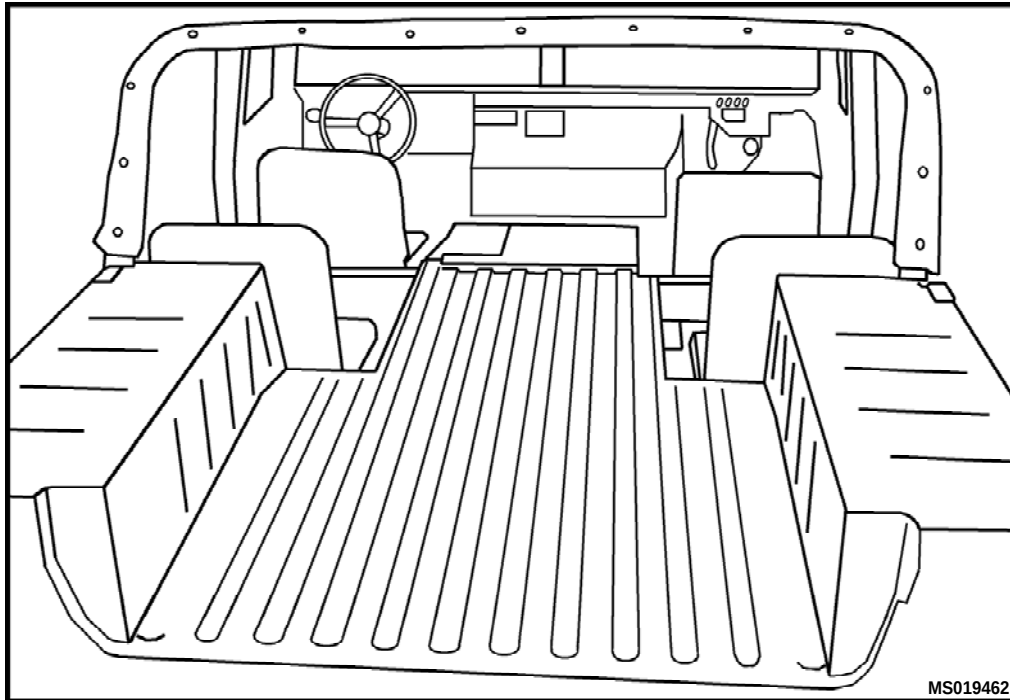

Figure 2. Cargo Bed Area
3. At vehicle cargo bed, remove tie down rings (three in rear, two forward in between front seats) and any other hardware that may be attached to floor or fender wells and store with Organizational Maintenance. Floor and fender wells should be clean and free of all appendages, dirt and corrosion. Remove plywood insulation between rear seats if it has been previously installed (Figure 2).